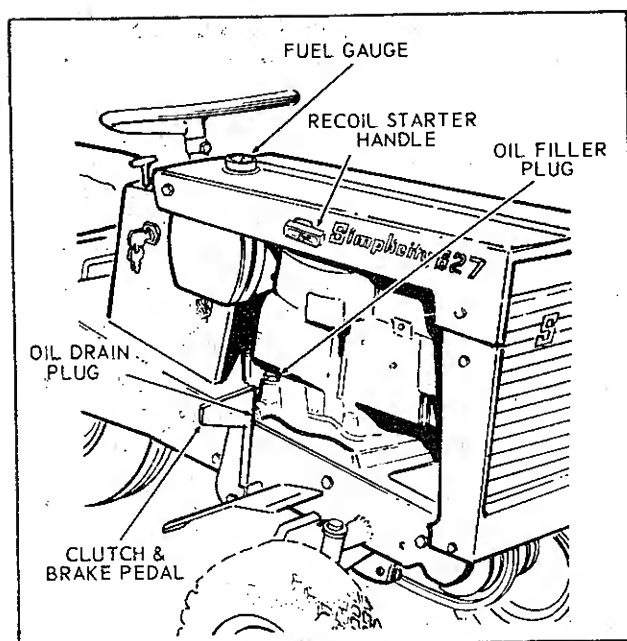

Figure 2
Operation of clutch and brake is regulated by clutch & brake pedal shown in Figure 2.
2. Depress the clutch pedal Figure 2 with the right foot.
4. Grasp the handle of the recoil starter Fig. 2 with the right hand and pull sharply toward you. If engine starts on first pull slowly move the choke and throttle lever to the "Run" position as the engine warms up. Should the engine fail to start on the first or second pull, move the choke and throttle lever to the "Run" position to avoid flooding the engine with fuel. When re-starting a warm engine, it should not be necessary to use the choke.
Travel direction of the tractor is regulated by the position of the transmission shift lever, Figure 3. Merely depress the clutch pedal, Figure 2 with the right foot, and with the heel of your hand, move the shift lever into the desired 1st, 2nd, 3rd or reverse position. Slowly release the clutch lever and move off, regulating speed of travel by the position of the throttle lever.